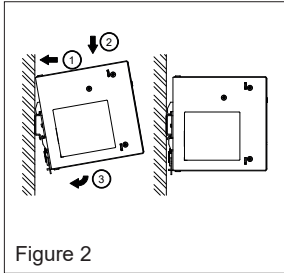
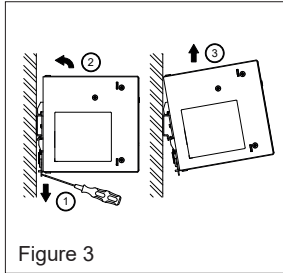

Figure 2
Figure 3
## 3. Mounting and dismounting (Fig. 2, Fig. 3)
- Tilt the unit slightly upwards and put it onto the DIN rail. Snap on the DIN rail as shown in Fig. 2.
- To uninstall, pull or slide down the latch as shown in Fig. 3. Then, slide the PSU in the opposite direction, release the latch and pull out the PSU from the rail.